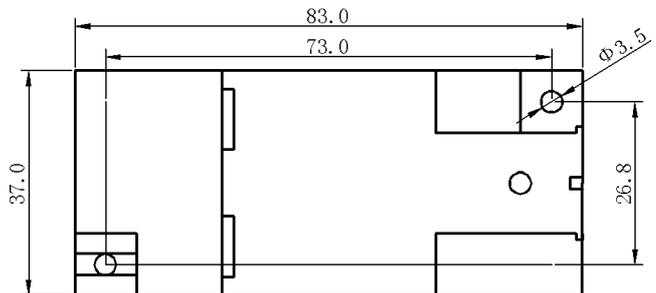

Figure 3, S3 Dimension drawing of outline installation
DIN35 rail mounting or screw mounting, the installation size shown in Figure 3 (in mm)
- ①The transducer fixed on the side of the card slot and hook on the mounting rail;
- ②Pull the spring pin down;
- ③Clip the transducer mount on the mounting rail;
- ④Release the spring pin and clip the transmitter on the mounting rail.
- ①4mm diameter hole in the fixed plate according to the screw hole position shown in Fig. 3;
- ② Insert the screw smaller than  $\Phi 3.5$  into hole to secure it.